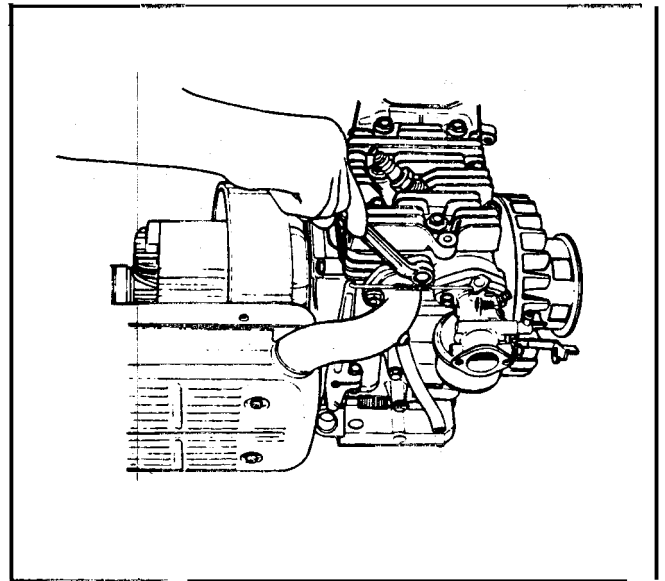

Figure 123
39. Install the muffler. Mount one gasket and secure the muffler with two nuts. See Figure 123.